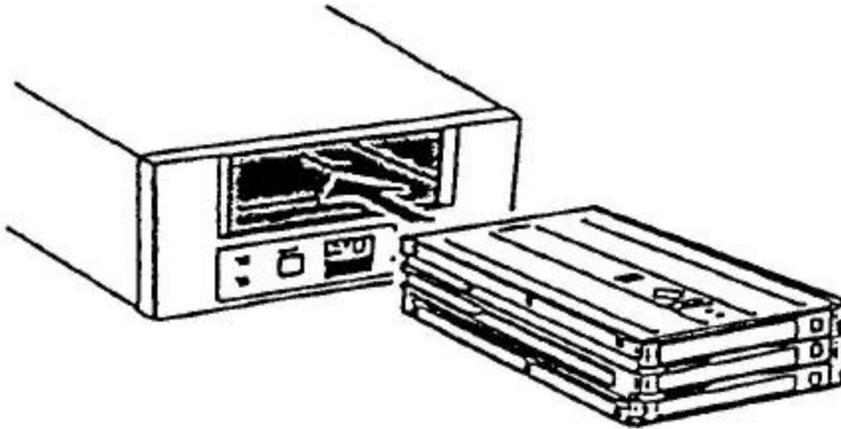

Figure 3-14. Inserting the magazine
1. Put as many cartridges (1, 7 or 8) as you need into the magazine. Refer to how to Insert the Cartridges, see Figure 3-14.